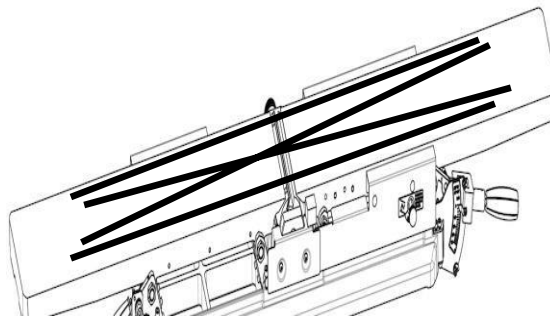

Figure 22: Checking tables for alignment
STEP 4: Place a straight edge across the tables in positions as shown in **FIG. 22**. In each position, the straight edge, should rest flat and fit flush with both infeed and outfeed tables (not on an insert knife). If it does not, follow the steps in Outfeed Table and Infeed Table adjustments.